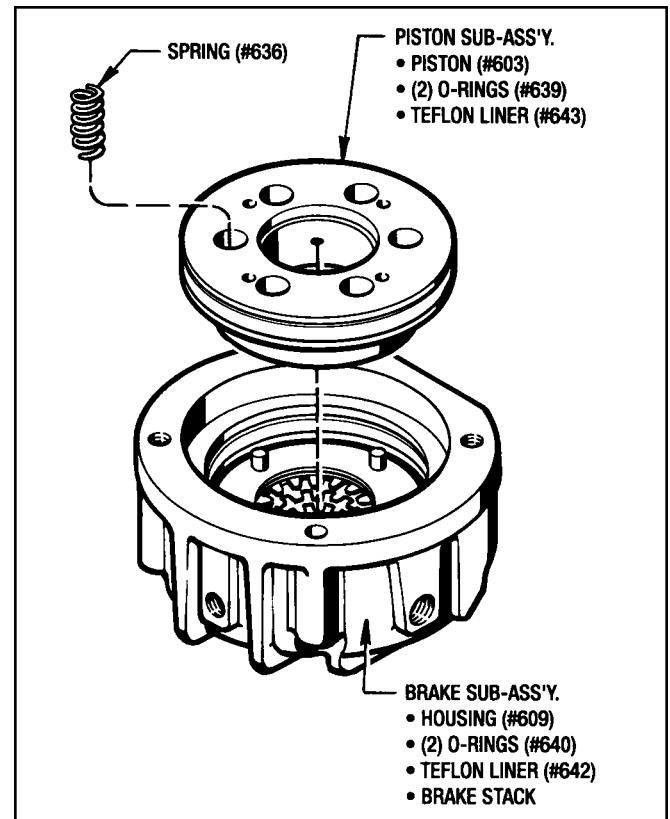

Figure 9.7 - Installing Piston Into Brake
1. Place the Brake End Housing (#609) in an upright position to facilitate Reassembly as shown in Figure 9.7.
5. Lubricate the (2) O-Rings (#640) and install them into the End Housing (#609).
7. Lubricate the (2) O-Rings (#639) and place them on the Piston (#603).
10. Place Piston Sub-Assembly into the housing, aligning the (4) holes in the Piston with the (4) Pins (#657) in the Brake Stack. (See Figure 9.7). Be careful not to damage the Teflon Liners in the housing or the piston.
13. Set the Adapter Plate (#679) onto the Brake Sub-Assembly. Attach with (2) Screws (#655) and (2) Washers (#628). Evenly tighten down these screws to compress the springs correctly.